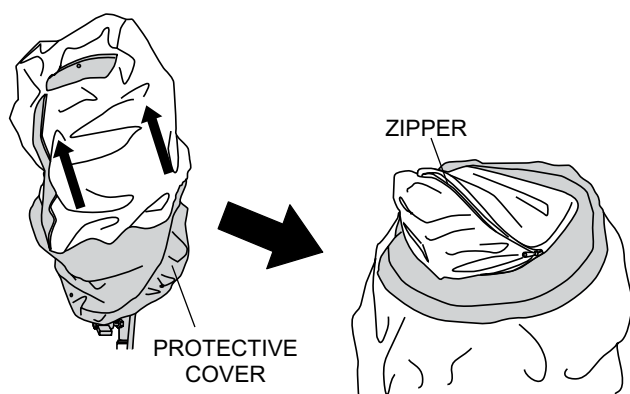

Figure 32. Folding Protective Cover
2. Next, fold the protective cover (Figure 32) into itself and zip.